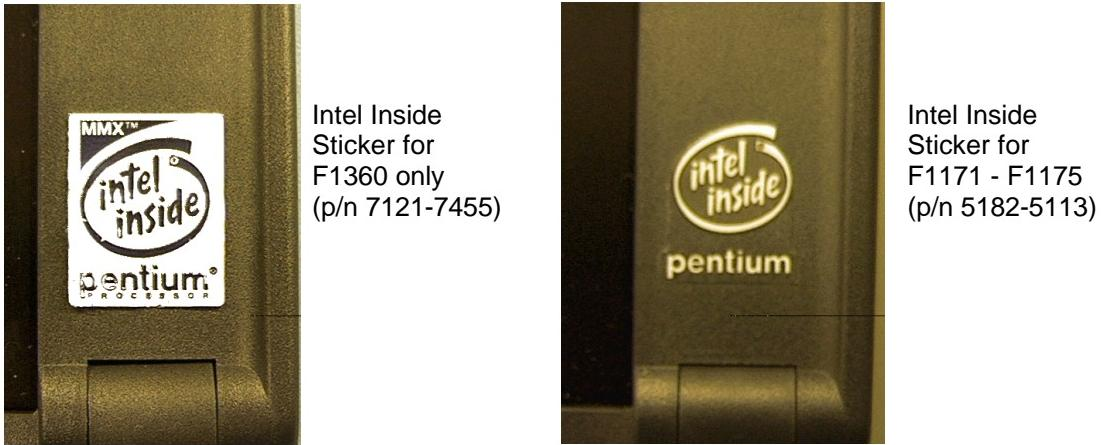

Figure 36 - Intel Inside Sticker Placement
1. If the replacement Display arrived without an Intel Inside sticker, one will need to be placed equidistant between the edges of the Display. For the F1360 OmniBooks, the sticker is placed about 7mm above the hinge. For F1171 - F1175 OmniBooks, the sticker is placed about 10mm above the hinge. See Figure 36 for examples.